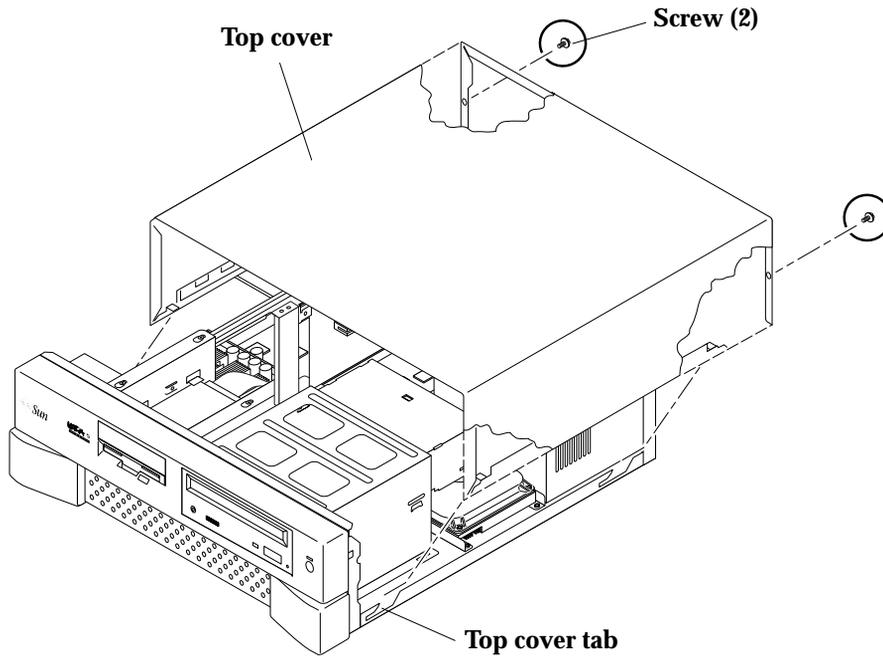

FIGURE 7-1 Removing and Replacing the Top Cover (Ultra 5)
3. Remove the Ultra 5 top cover as follows (FIGURE 7-1):
2. **Replace the Ultra 5 top cover as follows: (FIGURE 7-1):**